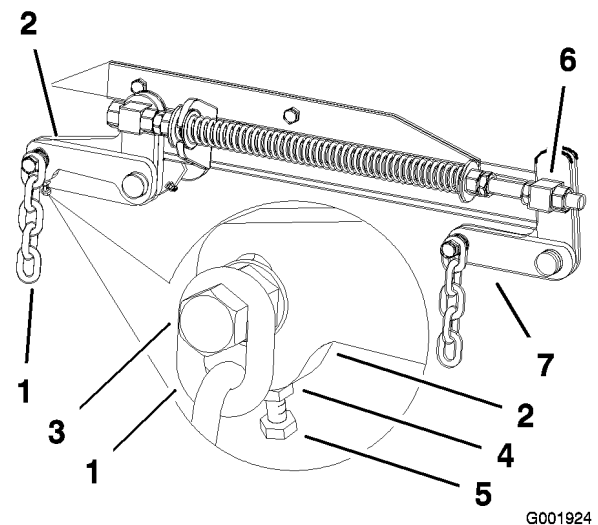

Figure 57
7. If the measurements at positions **B** or **C** are not correct, loosen the bolt attaching the rear chain to the rear support arm (Figure 57).
8. Loosen the jam nut under the rear support arm and adjust the adjustment bolt to get a measurement of 3-1/8 to 3-1/4 inches (Figure 57).
7. Loosen the front swivel jam nuts, at the front of the right and left swivels, approximately a 1/2 inch (13 mm) (Figure 57).
8. Adjust the lift nuts on both the left and the right side of the machine to achieve 1/4 to 3/8 inch (6 to 10 mm) lower in front at **A** than in the rear at **B** (Figure 57).